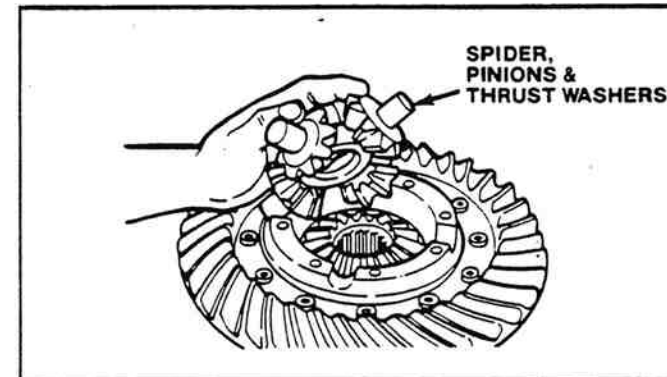

Figure 2-67. Installing Spider, Pinions And Thrust Washers.
12. Install the spider (cross), differential pinions and thrust washers into the flange case half (Figure 2-67).